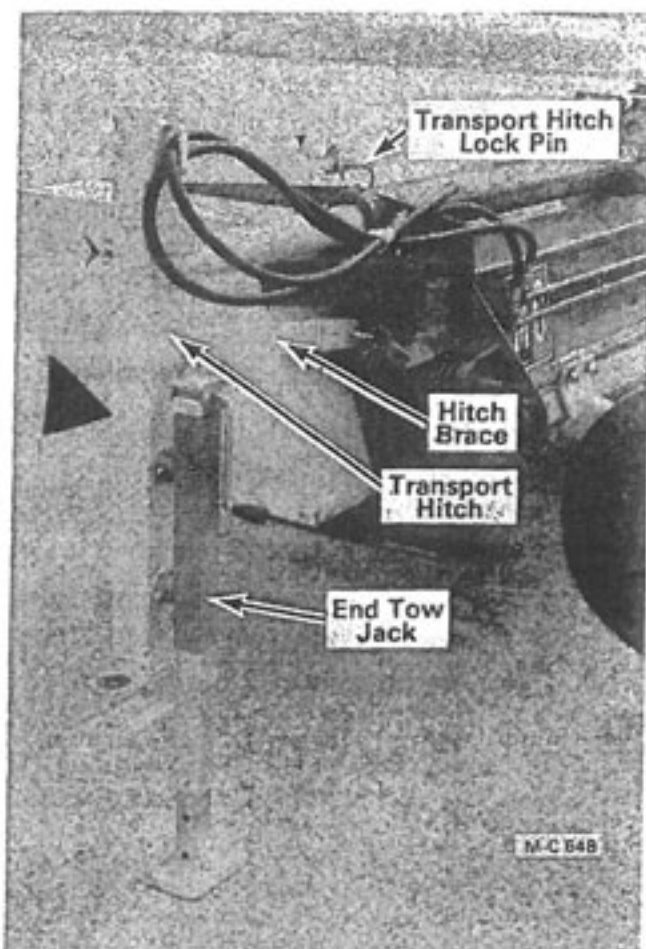

Figure 15
2. Lower the end tow jack to the ground to take the weight off of the tractor drawbar, see Figure 15.